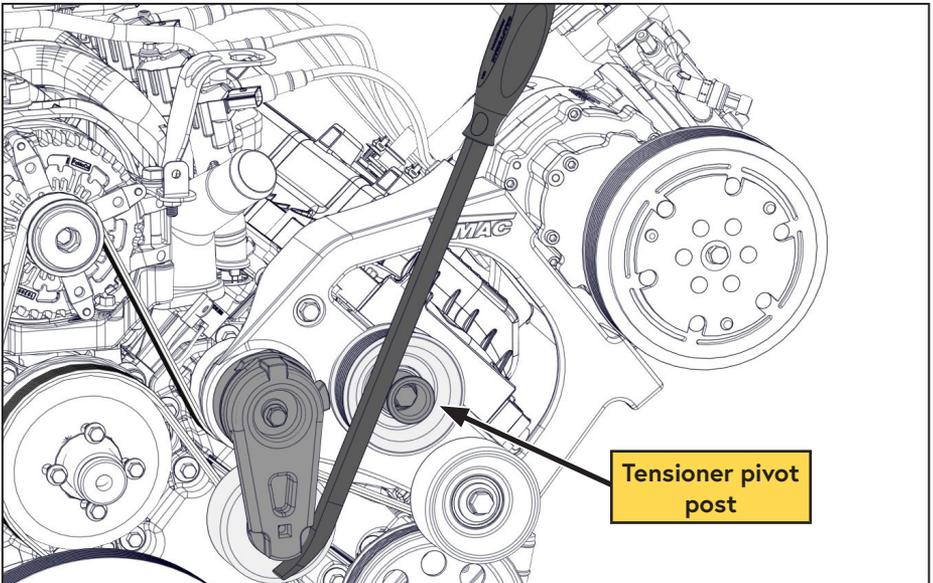

Figure 23 — Route VMAC belt
**i** After the fan is installed, the tensioner can be rotated using a pry bar against the idler's tensioner pivot post (Figure 23).